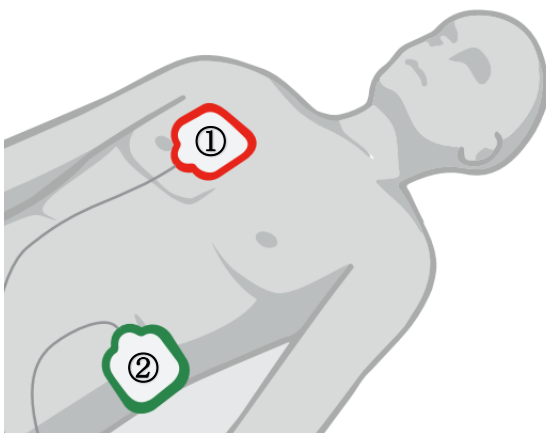
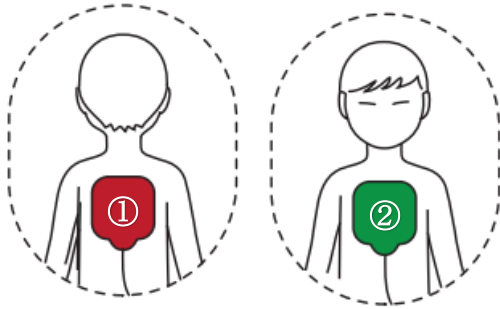

Fig. 11 Position of electrodes on adults
Fig. 12 Position of electrodes on children
- ▶ Remove the protective film from one of the electrodes and then immediately place the electrode on the position you had ascertained previously. (Refer to Figure 11 for adults and Figure 12 for children)